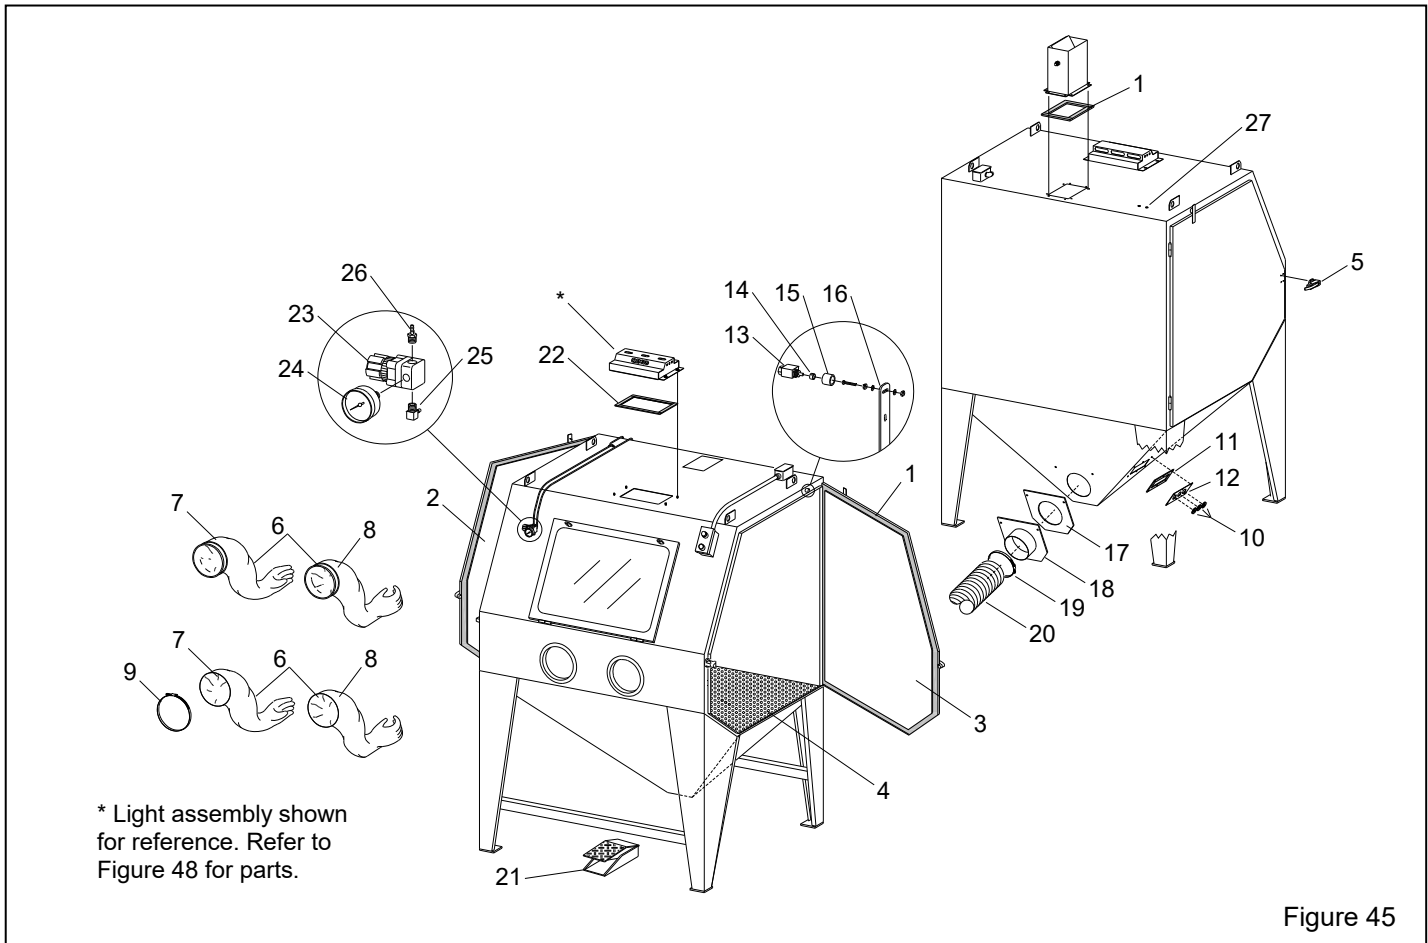

Figure 45
9.4 Cabinet Assembly – Figure 45